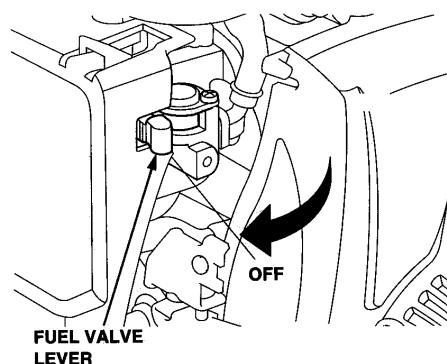

Figure 18. Fuel Valve Lever (OFF)
- Place the fuel shut-off lever (See Figure 18) in the **OFF** position